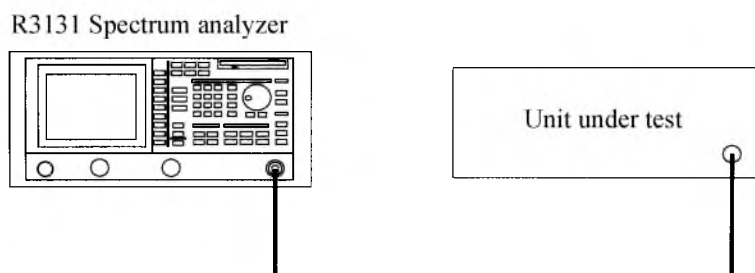

Figure 2-66 Setup for Measuring the Adjacent Channel Leakage Power
1. Connect the unit under test as shown in Figure 2-66.